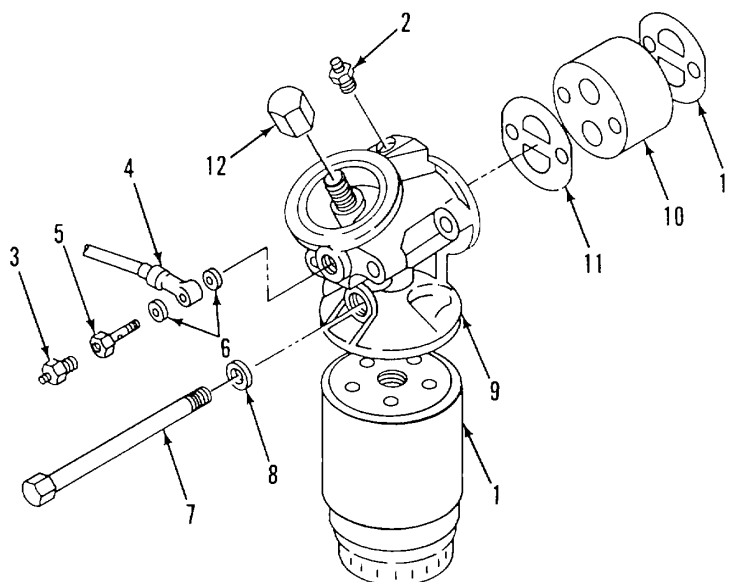

Figure 2-33. Lube Oil Filter Assembly
a. REMOVE. (Figure 2-33)
- (1) Unscrew filter element (1).
- (2) Disconnect and remove oil temperature sensor (2) and oil pressure switches (3) (para. 2-37).
- (3) Disconnect oil line by removing banjo bolts (5) and seals (6).
- (4) Remove two mounting bolts (7) and flat washers (8) and base assembly (9).
- (5) Remove spacer (10) and two gaskets (11).